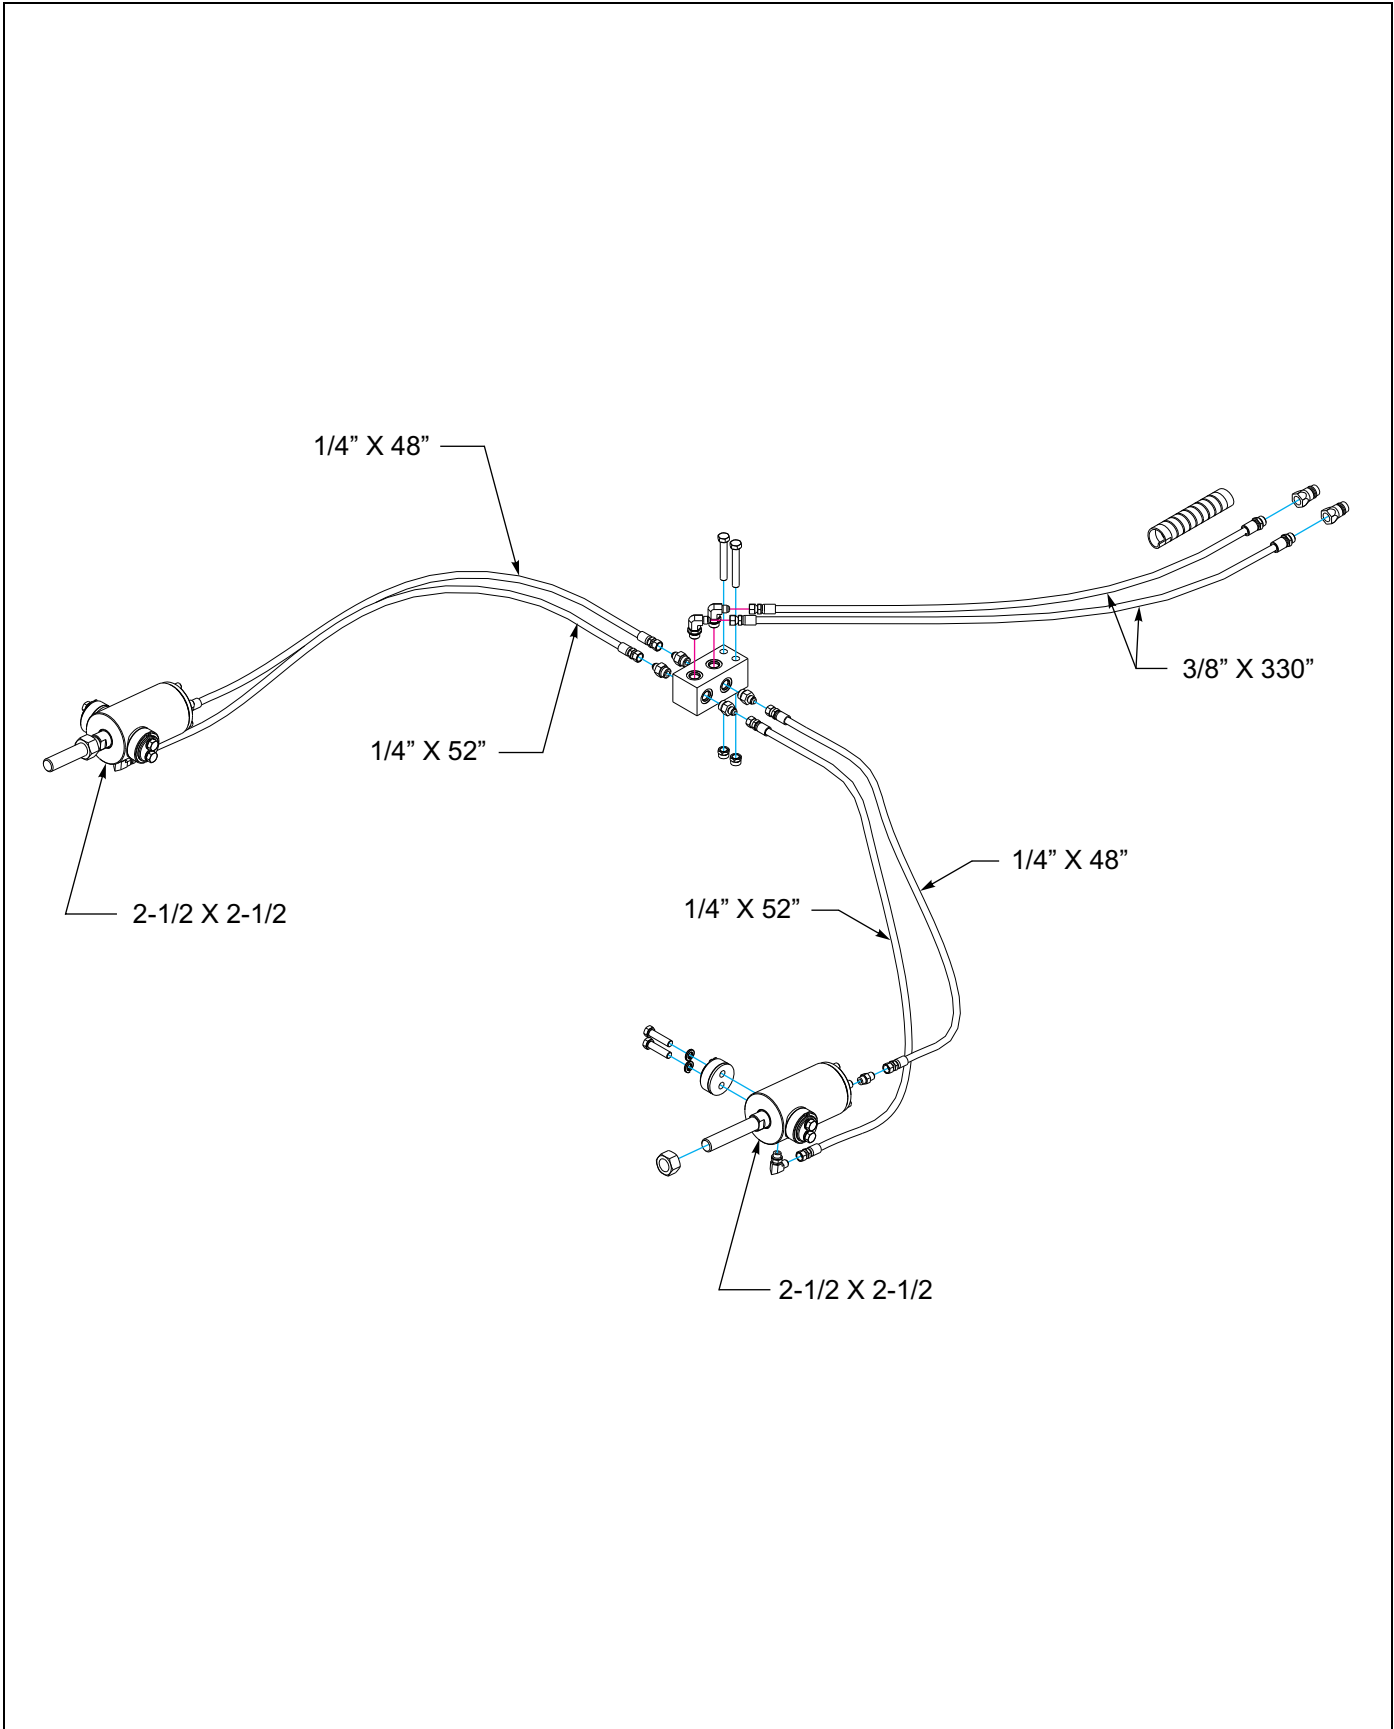

Figure 3-9: Hydraulic Reel Installation - 12'
12. **See Figures 3-9 and 3-10** for hydraulics assembly.